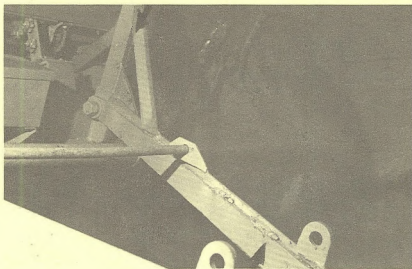

Figure 13. Tongue reinforcement
6. Drill Tongue Reinforcement (Figure 13): (1) The tongue is reinforced on the inside of the angle iron frame with a $1/2$ " to 2" x 48" fitted, flat, steel bar. Drill a 1" hole in one end of the bar and install it over the existing 1" bolt at the back of the tongue assembly. This will require a longer bolt. The reinforcing bar is then stagger-welded in 2" welds at 6" intervals. (2) Fit and weld a $1/2$ " x 2" flat iron bar on a 45° angle between the upright iron at the rear of the tongue assembly and the angle iron used for the tongue assembly.